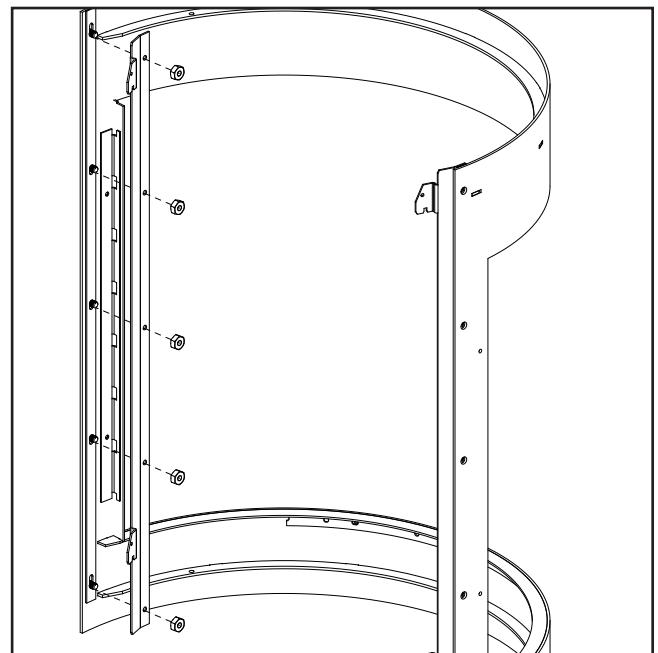

Figure 36: Door Frame Hook Removal
The door frame hooks are each attached to five (5) studs on the main door frame. Remove the nuts retaining the hooks and remove from the door frame (refer to Figure 36).